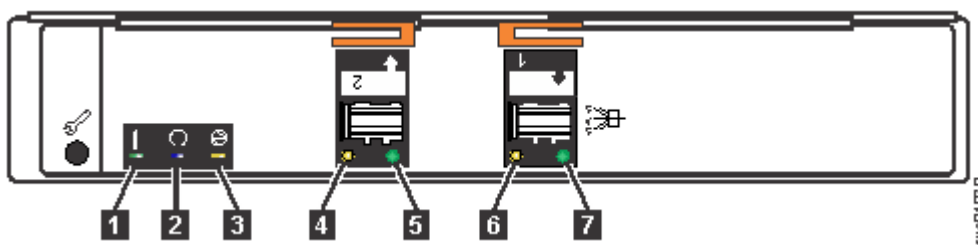

Figure 154. Expansion canister
An expansion canister provides SAS connectivity between the 5U expansion enclosure and control enclosure system. If either of the two expansion canisters has a failure, the other expansion canister assumes the full I/O load. Figure 154 on page 200 shows the features of an expansion enclosure.
3. Release the lower cable management arm to swing it out of the way, as described in Figure 154 on page 200.